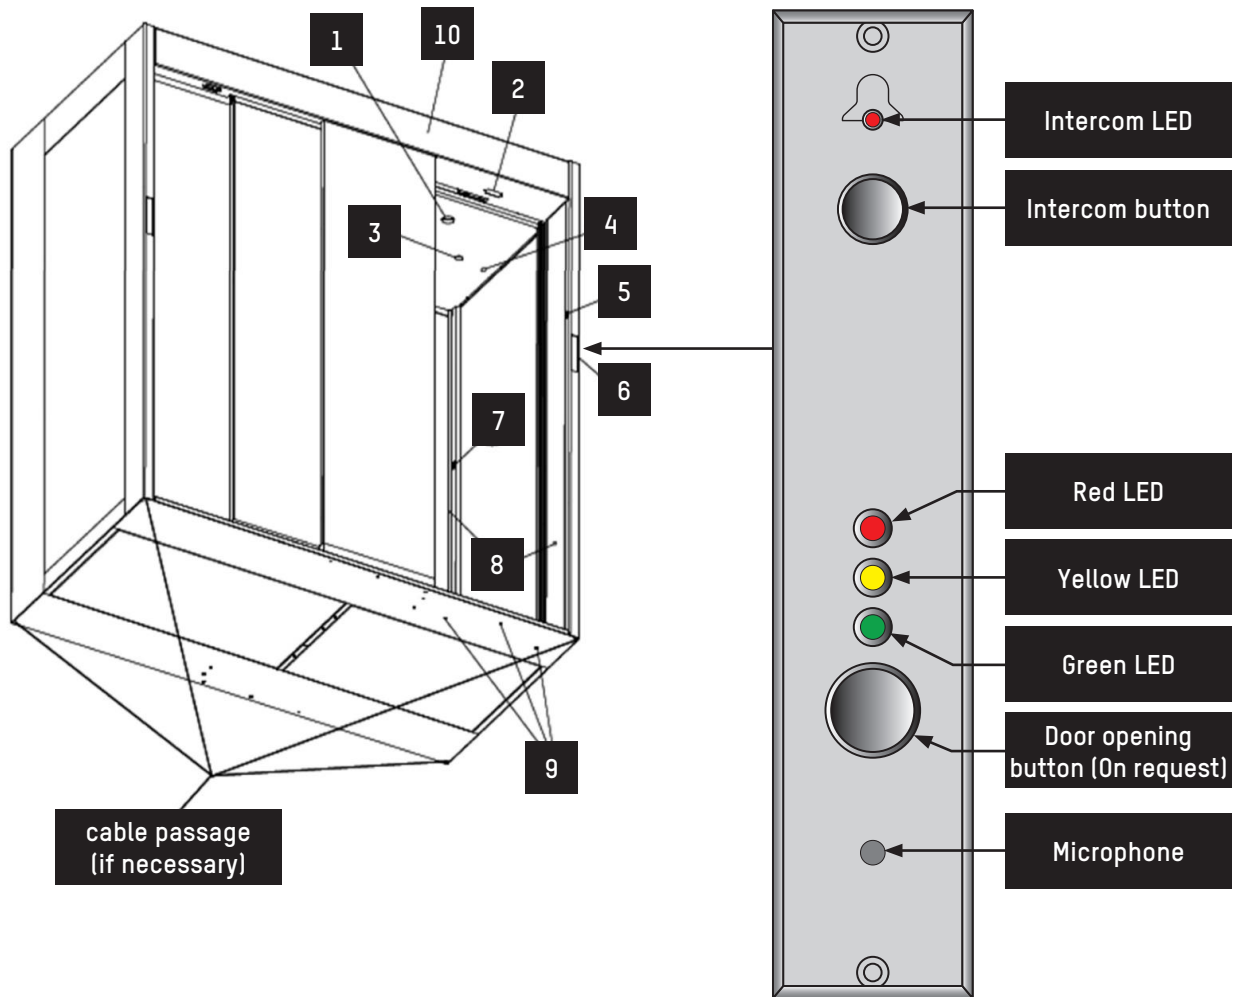

Fig. 2 - External side view
The security booth can be switched on and off with the mechanical key situated on the top of the external side of the booth (⇒ Fig. 2, page 12).
1. Press the call button (⇒ Fig. 2, page 12) situated on the side of the passage compartment and wait for the door to open